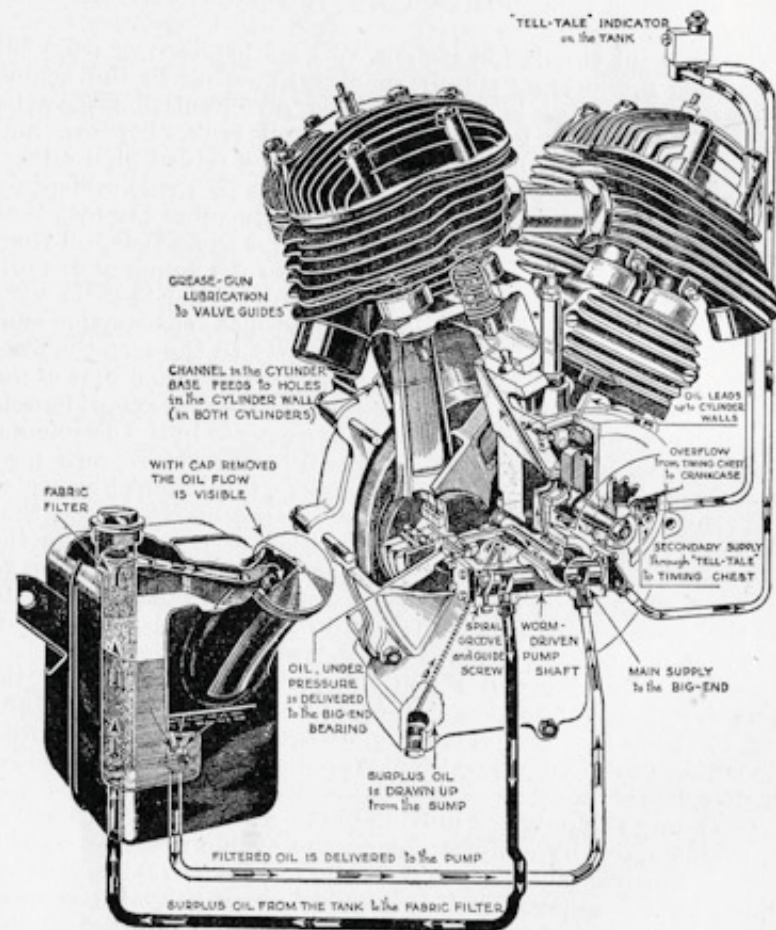
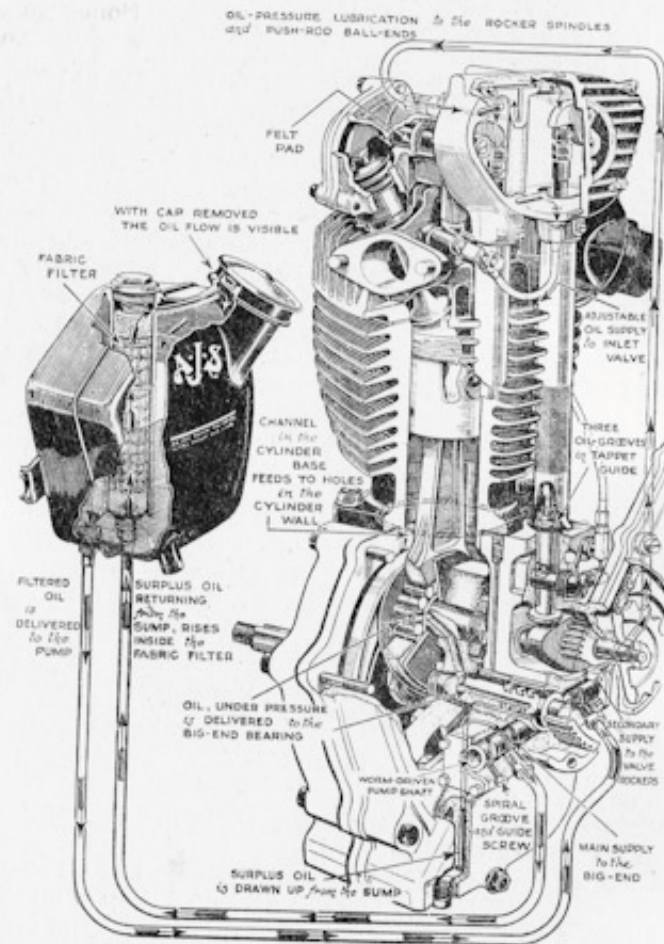

FIG. 10. DETAILS OF THE DRY SUMP SYSTEM ON THE 1937-8 A.J.S. BIG TWINS
FIG. 12. SHOWING CONSTRUCTIONAL FEATURES AND LUBRICATION SYSTEM OF THE 1937-8 O.H.V. ENGINE
It is a force-feed, constant circulation type with dry sump. Briefly its working is as follows: Oil, fed from the tank, is distributed throughout the engine, and finally returned to the tank by a duplex internal pump. This comprises a single double-acting, steel plunger (Fig. 10), housed in the crankcase casting below the timing case between two rectangular end caps horizontally and at right angles to the crankshaft axis, and able simultaneously to rotate and reciprocate. This dual action of the plunger is obtained, as is more fully explained on page 19, by the fact that while a positive rotation at one-fifteenth engine speed is effected by direct engagement of the spiral gear portion with a worm cut on the mainshaft, and endwise movement is secured by having an annular cam groove cut in the plunger body in permanent contact with the hardened end of a fixed guide screw. The actual oil circulation is brought about by alternate displacements and suction at the delivery and scavenge ends of the reciprocating plunger, the latter being of greater diameter than the former to ensure complete scavenging of the sump and the return of all surplus oil to the tank. Two segments cut in the plunger body constitute the main ports which regulate the circulation. There is no adjustment however. A point worthy of notice here is that the crankcase cannot safely be split until the pump plunger has first been removed.
With regard to the actual oil distribution, the system adopted is made clear by reference to Fig. 10. The small end of the plunger (i.e. the front one) injects oil into the timing case to a predetermined level, such that the camshaft bearings and drive are adequately lubricated. All surplus oil overflows into the flywheel chamber, and is eventually returned to the sump, although a little is caught up by the flywheels and splashed upon the big-ends and the cylinders. Splash lubrication, however, is not relied upon to any extent owing to the small volume of oil remaining at any time in the sump. Oil is forced under pressure direct to the big-end bearings and to the crankshaft bearing on the timing side by means of carefully drilled passages in the
**The Double-acting Oil Pump.** A general description of the 2, 2A dry sump lubrication system has already been given, and Fig. 10 shows how the oil is circulated. It remains to deal with the action of the pump, which also applies to most of the 1935-9 single-cylinder models.
The pump has only one moving part—a steel plunger driven at engine speed by a worm cut on the engine mainshaft. This plunger slowly oscillates to and fro, its precise travel being determined by the relieved end of a guide screw (Fig. 10) screwed into the rear of the pump housing and engaging with a profiled cam groove at the large return end of the plunger. This groove plays an all-important part. In addition to causing the plunger to oscillate and thereby obtain a pumping action at each end (for the plunger is completely enclosed by its housing and end caps), its carefully planned contour enables the pumping impulses to be synchronized with the opening and closing of two main ports and a small auxiliary port, thus definitely regulating the oil
of the delivery portion, so that the sump is always kept clear of oil. Fig. 10 enables the action of the pump to be understood. Oil flows by gravity, assisted by suction, from the tank to a point in the pump housing, such that no further passage can take place
**The Dry Sump Lubrication System (S.V. and O.H.V. Singles).** The dry sump lubrication system provided on 1935-9 S.V. and O.H.V. singles is substantially similar in principle and design to the system employed on the Big Twins as may be realized by comparing Figs. 10 and 12. As may be seen in Fig. 12, a double-acting oil pump of the same type as that already described draws oil from the tank and forces it through the drilled timing side mainshaft and flywheel to the big-end bearing and crankshaft bearings. From the big-end some oil is splashed on to the cylinder
The general arrangement is similar to that provided on the Big Twins (see Fig. 10). Above is illustrated a partly sectioned and cut-away 2-46 h.p. O.H.V. engine. Note the ball valve which controls the oil supply to the holes in the cylinder wall. The 1937-8 O.H.V. engine is shown on page 26
is advisable to replenish the oil tank frequently. The oil level should be maintained as far as possible within *one inch* of the return pipe orifice below the filler cap (Fig. 12) and must never be allowed to fall below the half-full mark with the engine cold. The more oil there is in the tank, the cooler will it be, for with D.S. lubrication the whole of the oil is in constant circulation. Further, the oil is less likely to become contaminated or diluted, both of which are very detrimental to the engine.